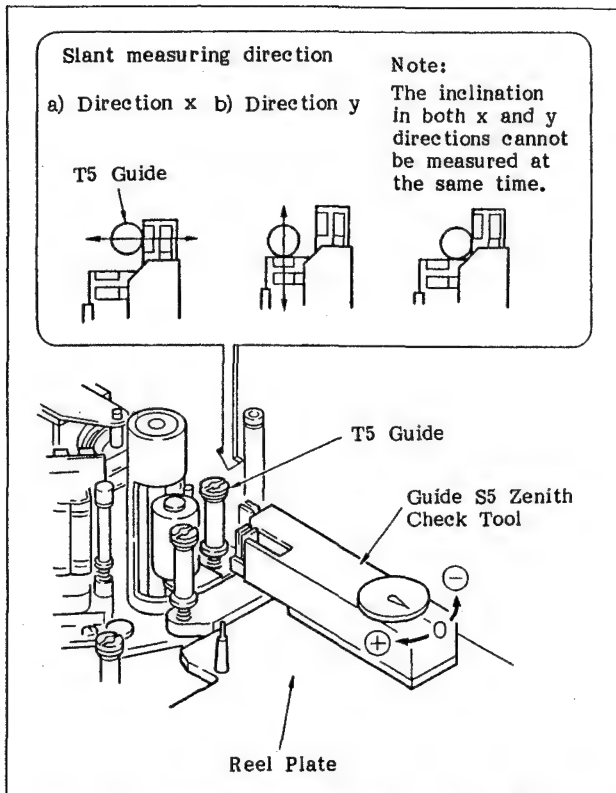

Fig. 6-84 Checking the Inclination of the T5 Guide
e. Push the guide S5 zenith check tool against the T5 guide, as shown in Figure 6-84. Check that the inclinations in the x and y directions meet the following specifications.
- If it does not, loosen the set screw of the T5 guide shown in Figure 6-84, and then adjust the height of the lower flange by rotating the flange holder.